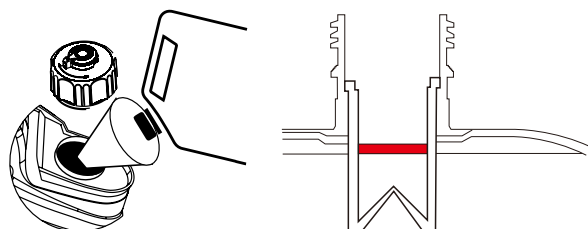

Figure 5: Maximum Gasoline Fill Level
6. Slowly add gasoline into the fuel tank. Be very careful not to overfill the tank. The gasoline level should NOT be higher than the red ring (see Figure 5).